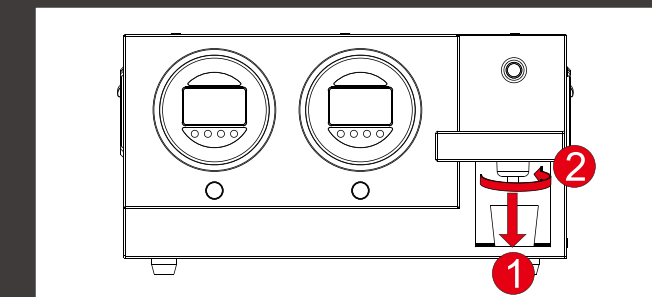

Figure 1-4
C. After all of the liquid drains out screw back on the liquid collector cap(see figure 1-4)